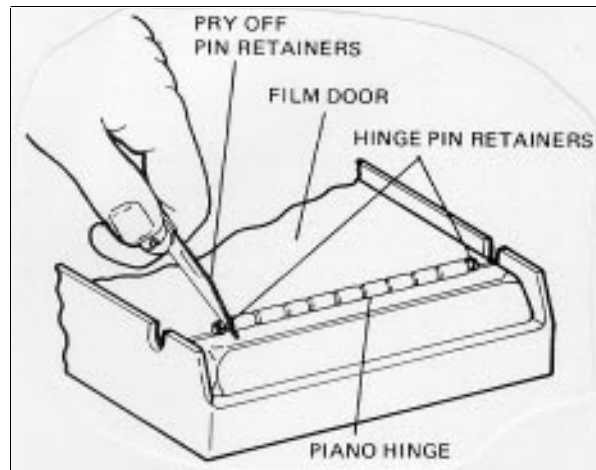

Figure 5-21. Removing Film Pack Door
- 1) Using a jeweler's screwdriver or other suitable tool, pry the hinge pin retainers out of each end of the hinge (figure 5-21).